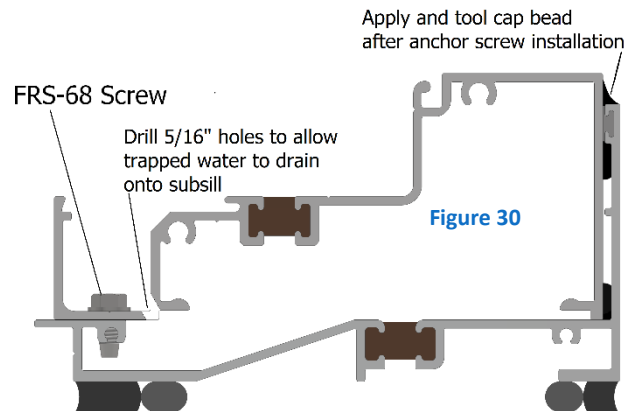

Figure 30
2. Drill 1/8" pilot holes thru sill and subsill as shown in figure 30. Care must be taken so that anchor hole only penetrates first face of subsill. Anchor Hole or anchor is not to penetrate bottom wall of subsill.
G. Apply cap bead between top of the interior leg of subsill and exposed vertical face of sill member. See figure 30.